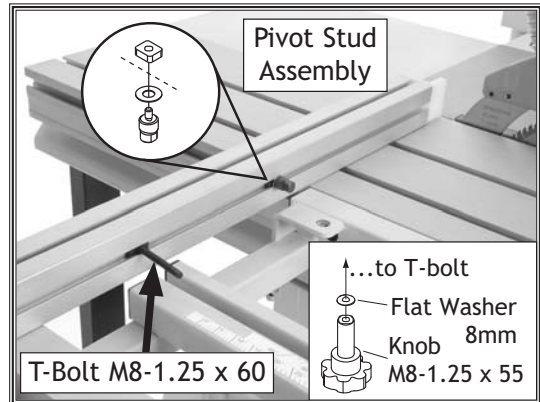

Figure 25. Pivot stud and T-bolt installed in crosscut fence.
19. Slide the pivot stud assembly and the M8-1.25 x 60 T-bolt into the crosscut fence T-slot, as shown in **Figure 25**.
20. Align the T-bolt and pivot stud with the crosscut table insertion points (**Figure 25**), and install the fence on the table.